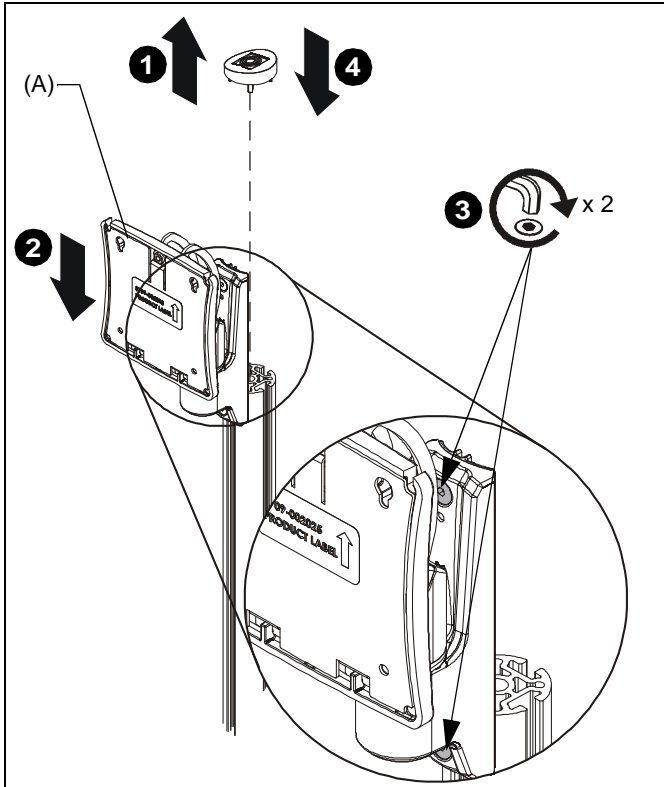

Figure 1
2. Slide KRA231 accessory (A) onto front of the column. (See Figure 1)
3. Tighten screws to secure accessory to column at desired mounting height. (See Figure 1)
4. Replace cap on top of column. (See Figure 1)